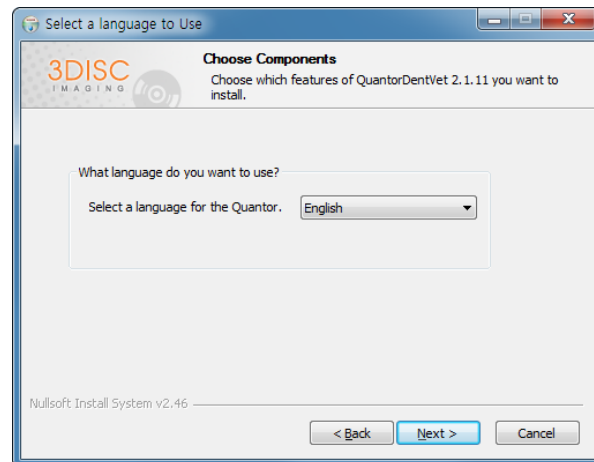

Figure 2.3 Components Dialog Box
- Choose your language and click the “Next” button as shown in Figure 2.3.